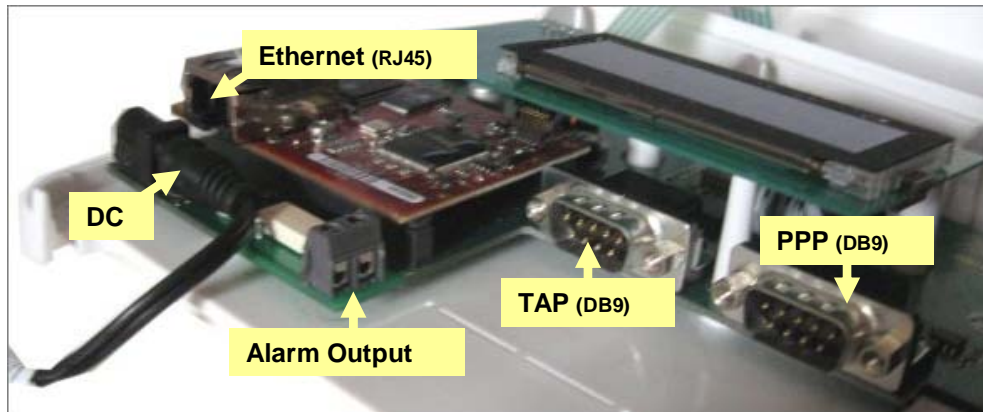

Figure 11. Hub Interfaces
3. Click Network Connections. With the network cable disconnected, the Local Area connection will be shown as unplugged (X).
5. Connect an Ethernet (RJ45) patch cable to the RJ45 connector, See Figure 11. Hub Interfaces.